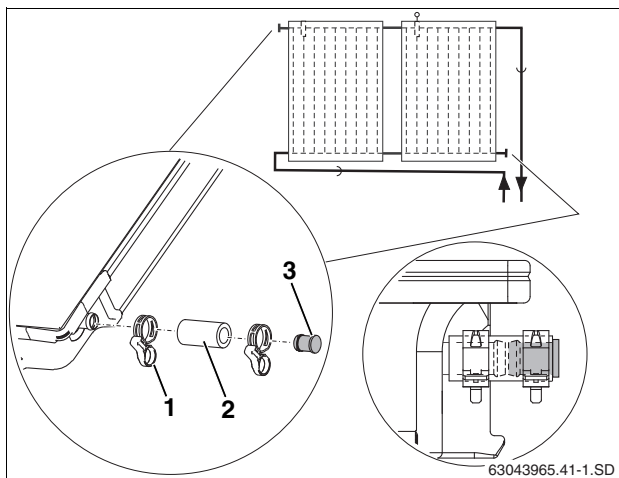

Fig. 43 Fitting the dummy plug and hose clamp
- ▶ Install a preassembled dummy plug into a 2" (55 mm) solar hose (Fig. 43, [2]) and mount on the two free connections on the collector array.